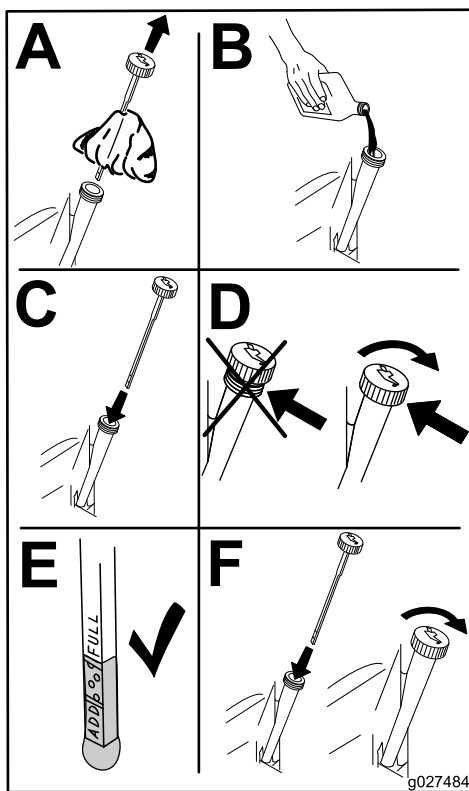

Figure 33
4. Slowly pour approximately 80% of the specified amount of oil into the fill hole (Figure 33).